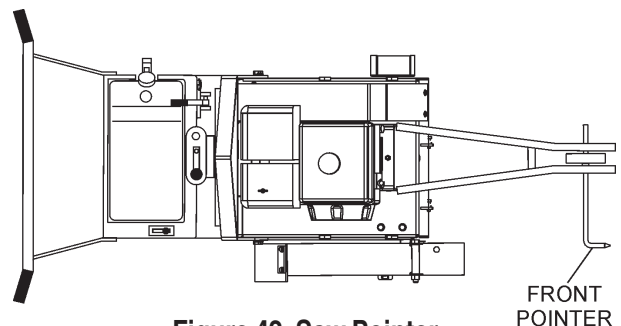

Figure 42. Saw Pointer
1. The SP2S13H20A saw employs a front pointer (Figure 42) that has been precisely aligned with the diamond blade at the factory. Referencing the figure below, accurate tracking is accomplished by referencing the front pointer tip over the cut line. Precise saw direction is accomplished by slight operator pressure against the handle bars.